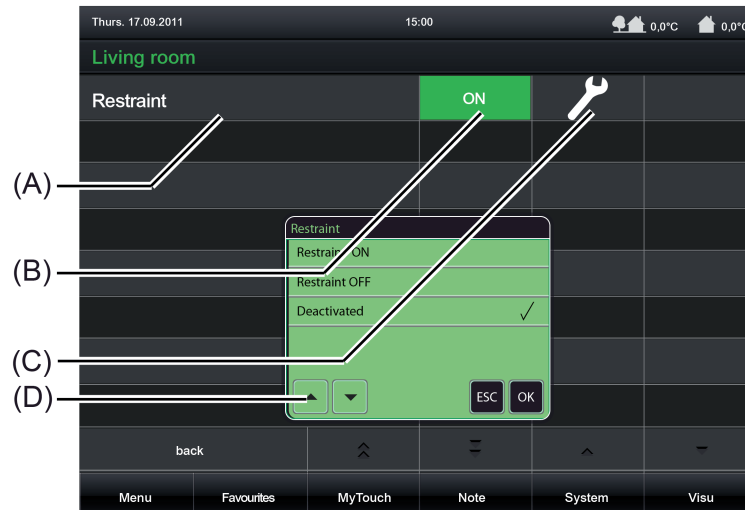

Figure 31: Example of operating and display elements of the KNX function "Restraint"
The display area contains different display elements (Figure 31) that are influenced by parameters. A name can be assigned to each KNX function in the configuration software (A). The sensor surface for direct operation (B) displays the switching state that should be produced by the next touch, depending on the configurations in the configuration software. Appropriate colour markings and the changing of display texts is possible. After touching the sensor surface for the dialog operation in the display area (C), the dialog window (D) will open in which the controllable KNX functions can be selected (e.g. "Restrained ON"). The displayed text can be configured separately for each state in the configuration software (e.g. "FORCING ON").